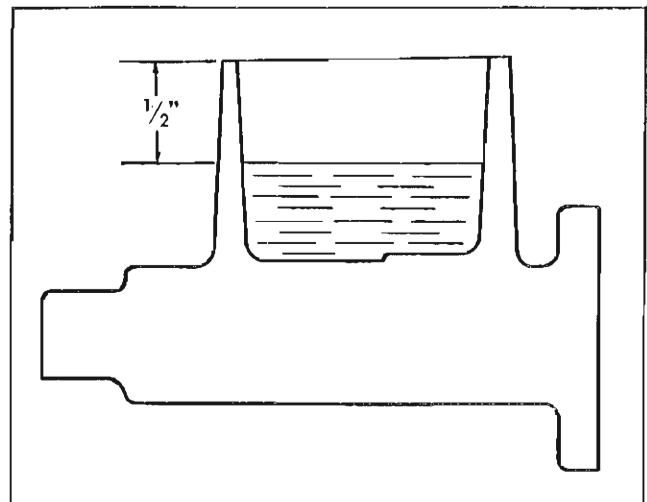

Fig. 5-4 Correct Fluid Level in Master Cylinder
4. When bleeding operation is completed, refill reservoir to within $\frac{1}{2}$ " of top of master cylinder filler neck gasket surface and then replace filler cap (Fig. 5-4).
Fluid level in master cylinder should be $\frac{1}{2}$ " below cap sealing surface (Fig. 5-4).